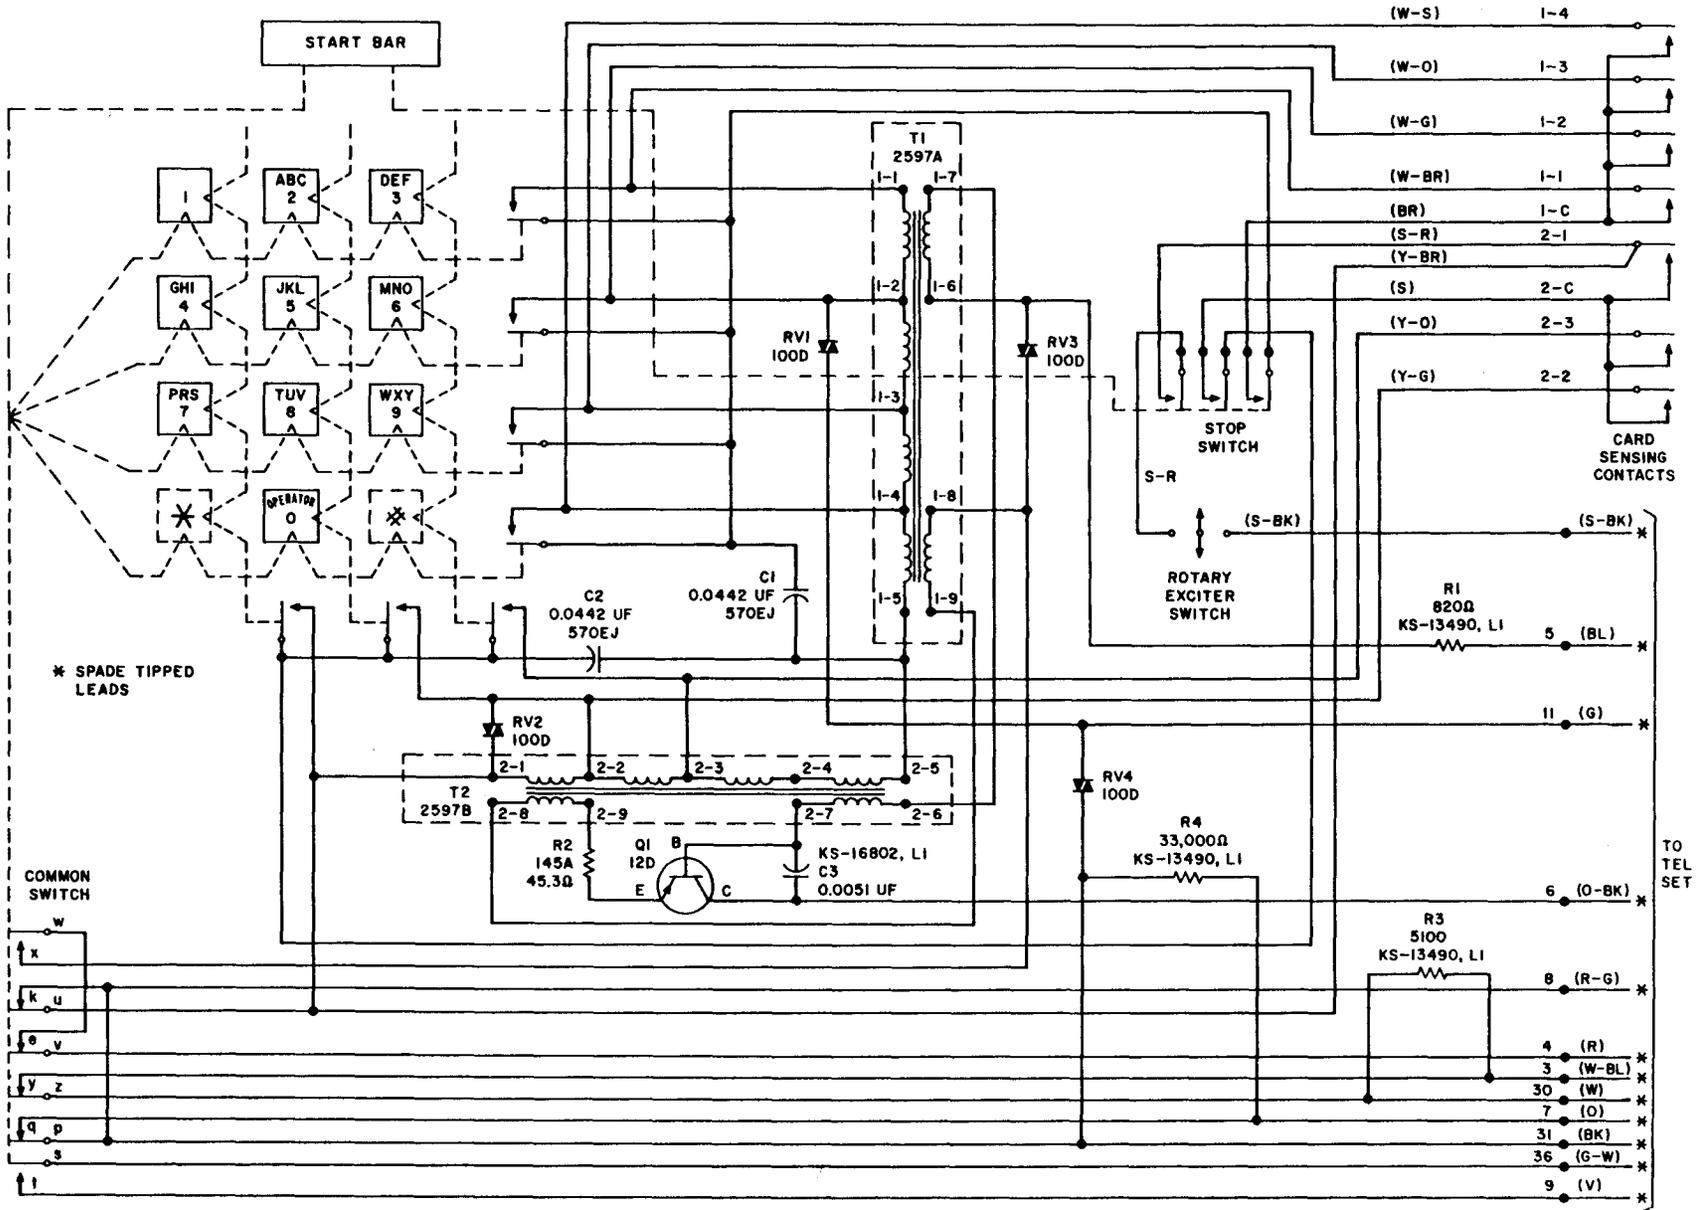

Fig. 9 — 26F Dial, Connections
- Fig. 9 — 26F Dial, Connections